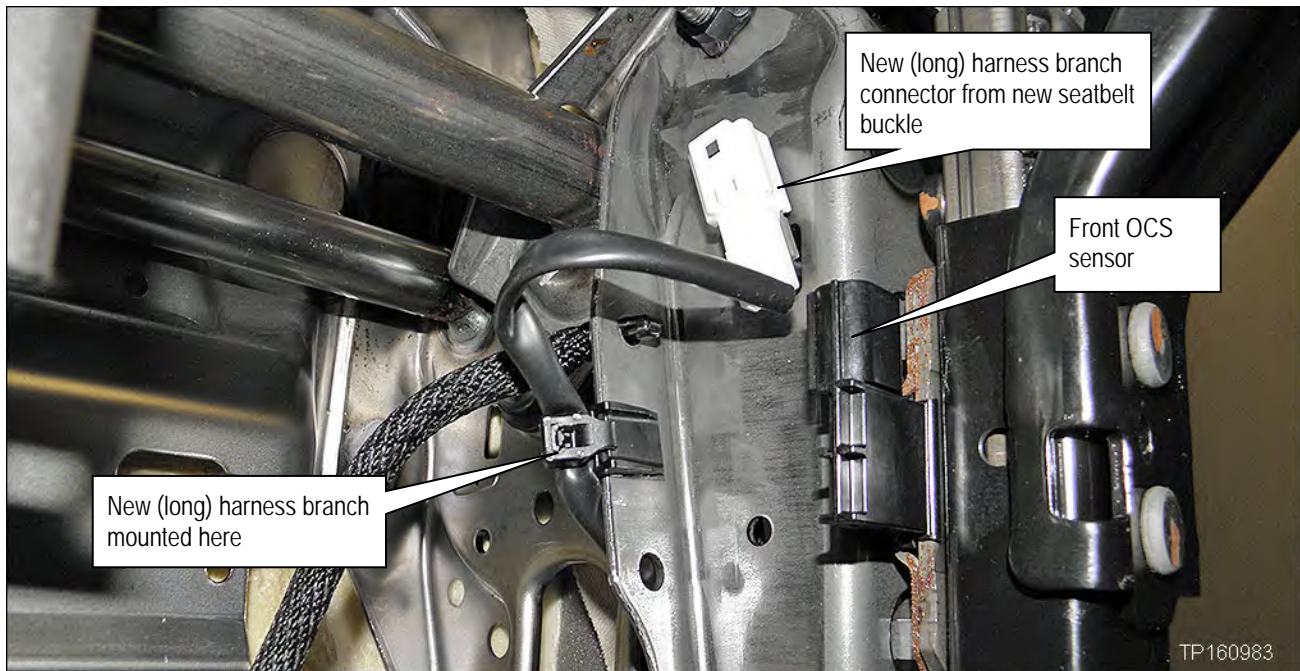

Figure 4
- Attach the new (long) harness branch as shown in Figure 4.